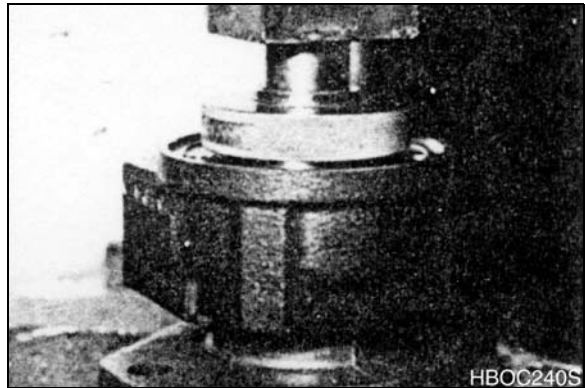

Figure 38
2. The Small Frame Series MG and MF Torqmotor™ inner housing bearing/bushing (13) can now be pressed into its counterbore in housing (18) flush to 0.03 inch (0.76 mm) below the housing wear plate contact face. Use the opposite end of the bearing mandrel that was used to press in the outer bearing/bushing (19). Reference figure 1, "Tools and Materials Required for Servicing" section. See Figure 38.